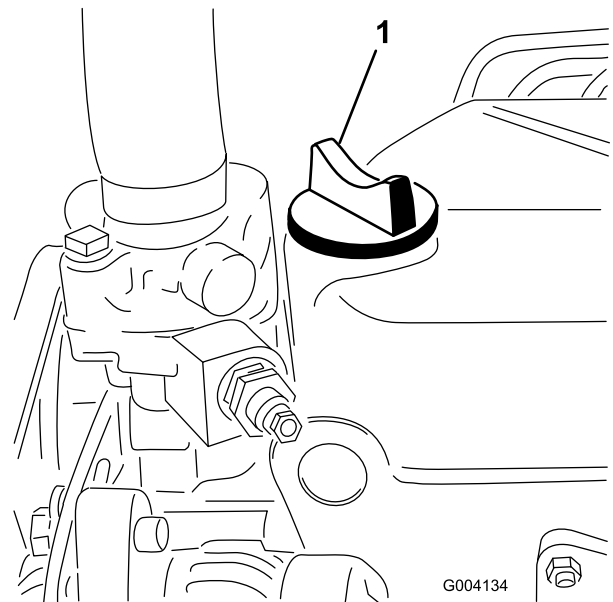

Figure 24
5. If the oil level is below the Full mark, remove the fill cap (Figure 24) and add oil until level reaches the Full mark on dipstick. **Do not overfill.**